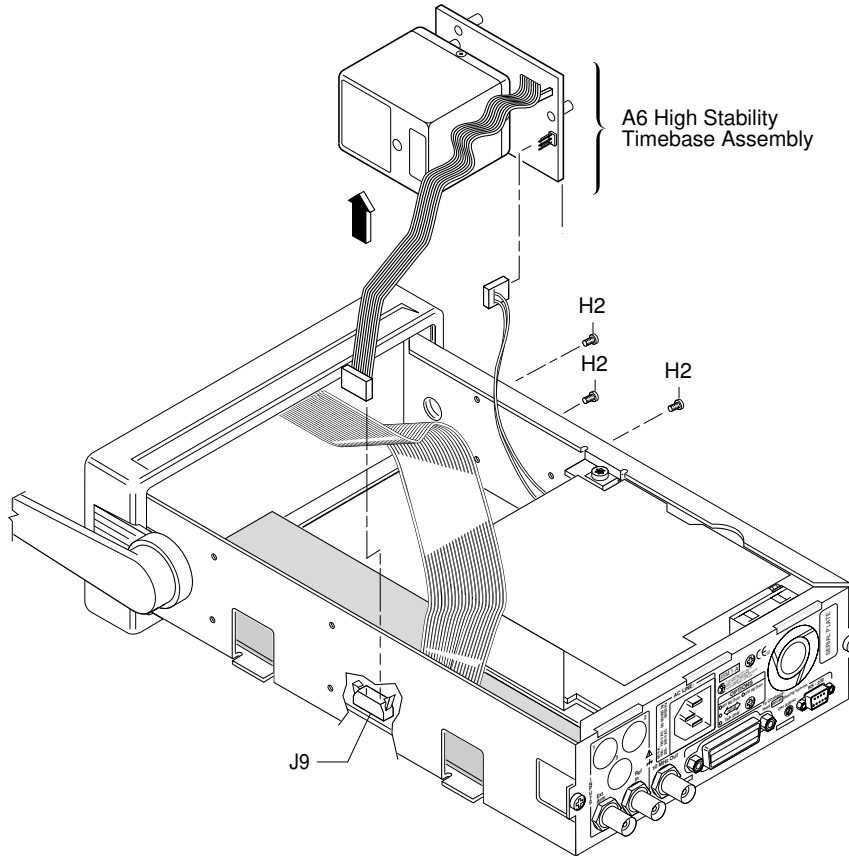

Figure 3-12. Option 001, 010, and 012 A6 High Stability Timebase Assembly Removal
2 Disconnect A6 High Stability Timebase Assembly cable from the J9 connector on A1 Motherboard Assembly as shown in Figure 3-12.
- 4** Remove the three TORX 10 screws (H2) attaching the timebase to the chassis as shown in Figure 3-12.